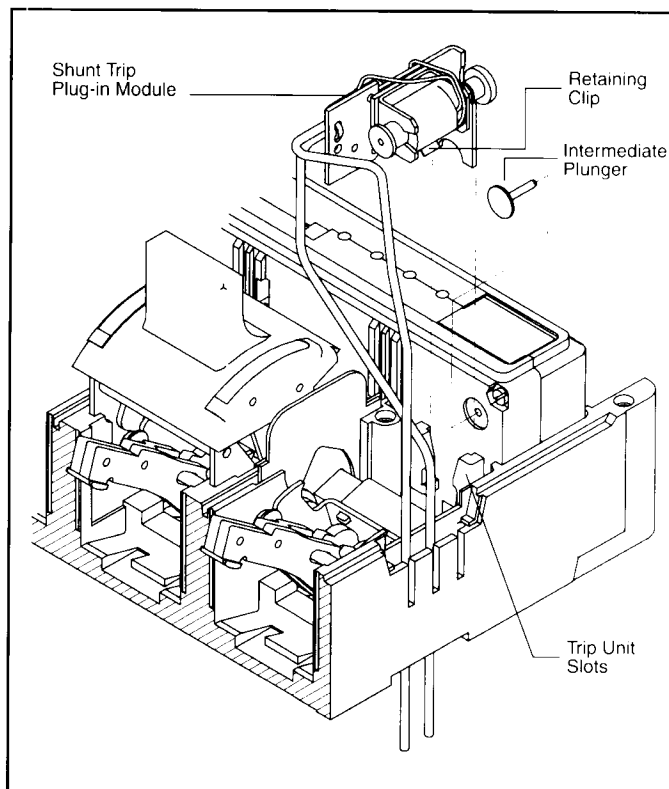

Fig. 2-3 Installing Intermediate Plunger and Shunt Trip
- 2-5. Insert shunt trip as described in the following steps (Fig. 2-3).
- b. Position intermediate plunger in trip unit (Fig. 2-3).